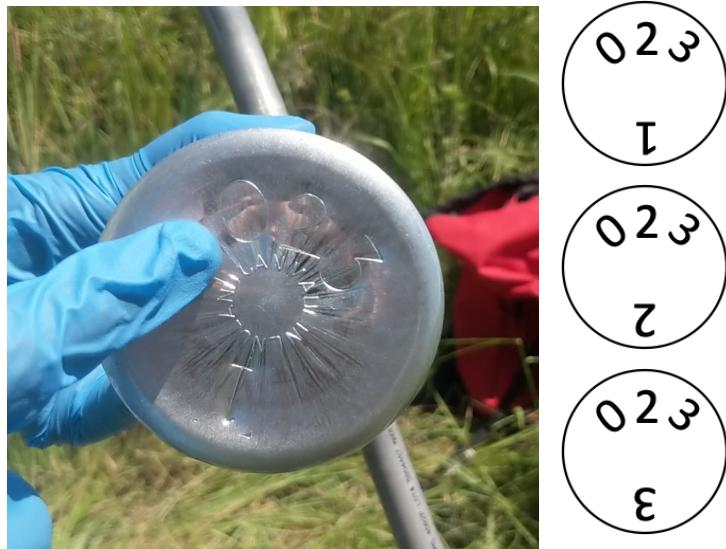

Figure 2. Close-up picture of antler lid from the inside. Note the longer tube on the left, which should be oriented to point upwind, away from the fin.
4. Wearing gloves, sterilize the inside of the jar and antler lid (lid modified with tubes) with an alcohol wipe. Be sure to sterilize all parts, including the aluminum tubes and epoxy and pay special attention to the difficult to reach inner seal and threads (Figure 2). If you cannot reach the bottom of the canister with your gloved hand, you can use a pen or the back end of a clean screwdriver to properly apply the alcohol wipe. As best as possible, also try to sterilize the inside of the aluminum tubes.
6. Slide the canister back into the hose clamp and tighten using a flathead screwdriver. Be sure to position the antlers so that the longer tube is facing upwind or away from the fin. If you cannot tell which tube is the longer tube, you can take a quick peek inside the canister (Figure 2). You may need to make several adjustments to make sure that the tubes are parallel with the ground and that the can is tightly attached. *Note that*